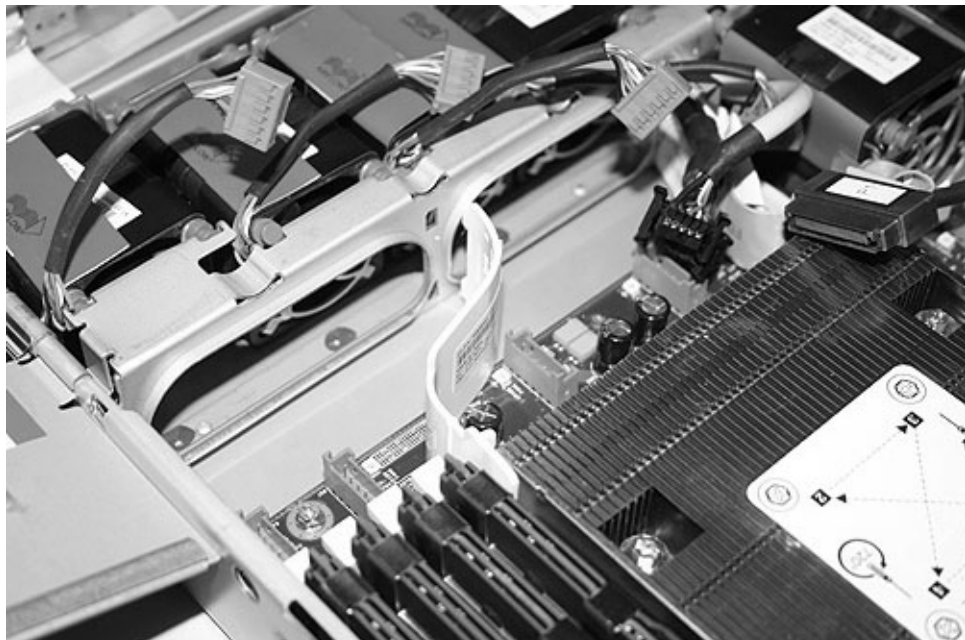

Figure 238. Right air baffle on the SAN Volume Controller 2145-8G4 system board
10. Remove the right air baffle, which is shown in Figure 238. First, pull the air baffle to the right and then push the connector towards the back of the unit to release it from the support rail. Next, pull the baffle forward and then upward to release the clip from the system board. Finally, lift the baffle free.